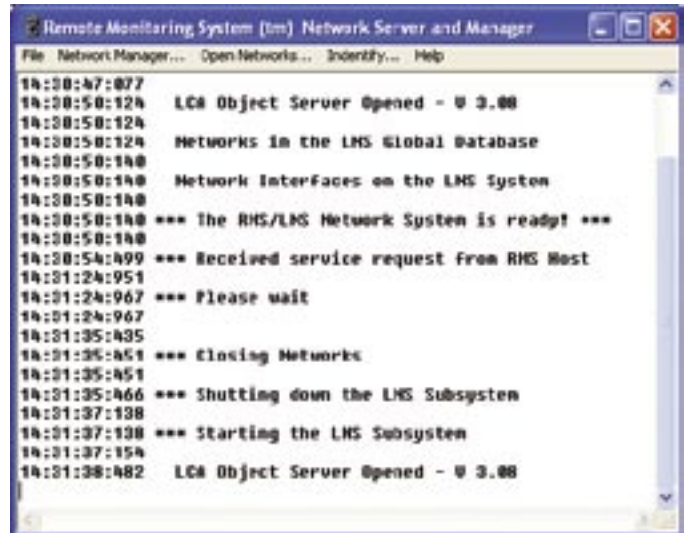

Figure 3.5. A new RMS network database being created
4. The program will close and re-initialize the new database (Figure 3.5).